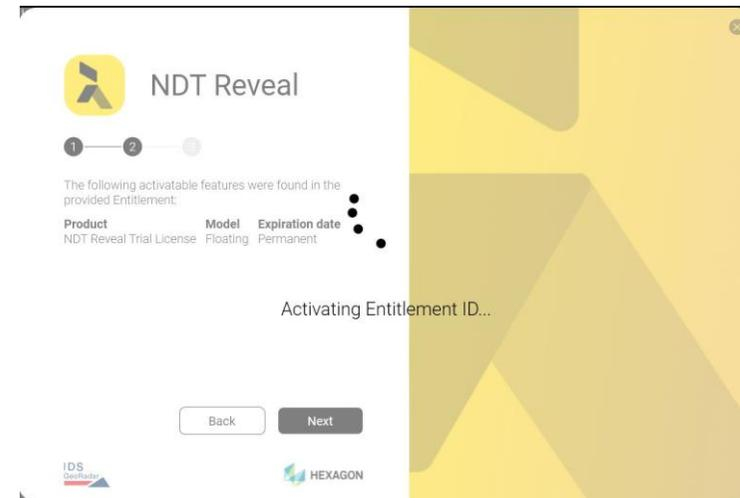

Fig. 13 Confirming Activation of NDT Reveal EID
13. Wait for the license to be activated (Fig. 13),